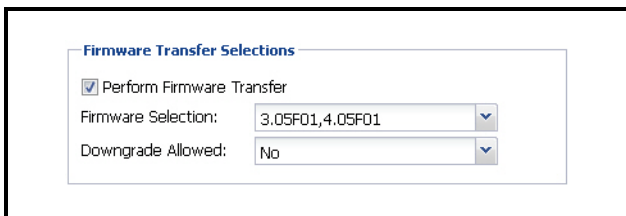

Figure 6-27 - Select the Firmware Package to Transfer
3. Under **Firmware Transfer Selections** (Figure 6-27), enable the **Perform Firmware Transfer** checkbox then select the appropriate firmware package under the **Firmware Selection** drop-down list:
4. Select whether a downgrade will be allowed (Figure 6-27). If the firmware selection is a downgrade for the selected control system, and it is acceptable for the downgrade to occur, select **Yes**. If **No** is se-
5. Select a firmware file to transfer from a list of firmware files (Figure 6-27) that are stored on the Site Manager server.
NOTE: If you wish to perform **language package update only** from this page, disable the **Perform Firmware Transfer** checkbox (Figure 6-27).